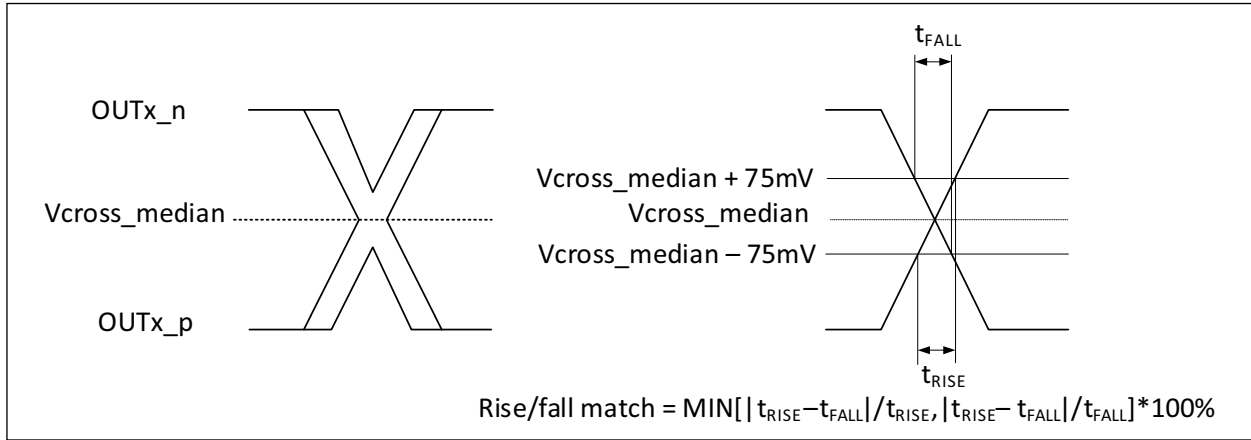

FIGURE 1-3: Single-Ended Measurement Points for Rise and Fall Time Matching.
- 10:** Matching applies to rising edge rate for OUTx_p and falling edge rate for OUTx_n. It is measured using a $\pm 75\text{ mV}$ window centered on the median cross point where OUTx_p rising meets OUTx_n falling. The median cross point is used to calculate the voltage thresholds the oscilloscope is to use for the edge rate calculations. The Rise Edge Rate of OUTx_p should be compared to the Fall Edge Rate of OUTx_n; the maximum allowed difference should not exceed 20% of the slowest edge rate. See Figure 1-3.